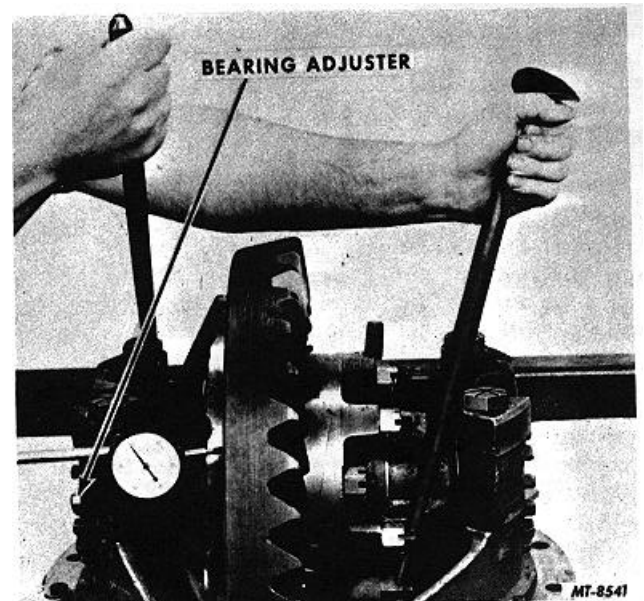

Fig. 18 Adjusting Bearing Preload
35. To set the bearing preload, mount dial indicator at side of ring gear (Fig. 18). With the bearing capscrews loosened to permit bearing movement, loosen adjusting nuts only enough to notice end play on indicator.